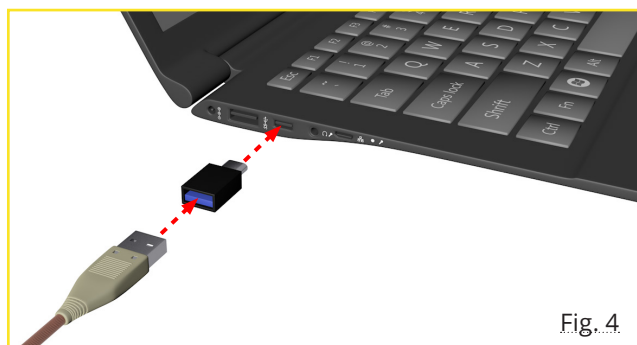

Fig. 4
3. If only one USB-C socket is available, use the enclosed USB-C adapter. Look at fig. 4.